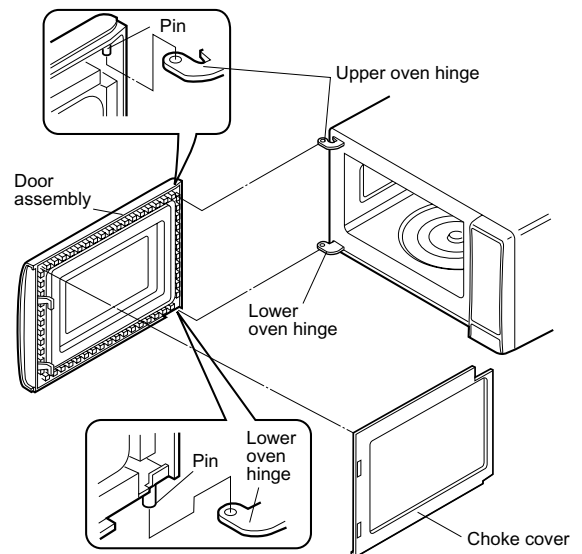

Figure C-5. Door Replacement
3. Reinstall door panel to door frame by fitting twelve (12) tabs of door frame to twelve (12) holes of door panel.
5. Catch two (2) pins of door panel on two (2) hole of upper and lower oven hinges as shown Figure C-5.